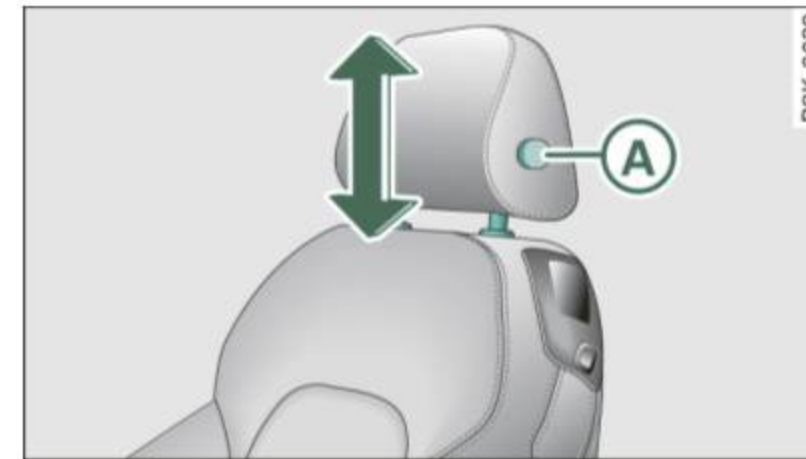

Fig. 81 Front seat: Adjusting the head restraint
- Press the button **(A)** ⇒ *page 85*, fig. 81 and push the head restraint down.
- Adjust the head restraints so that the top of the head restraint is *at least* level with your eyes or higher ⇒ *page 85*, fig. 81.